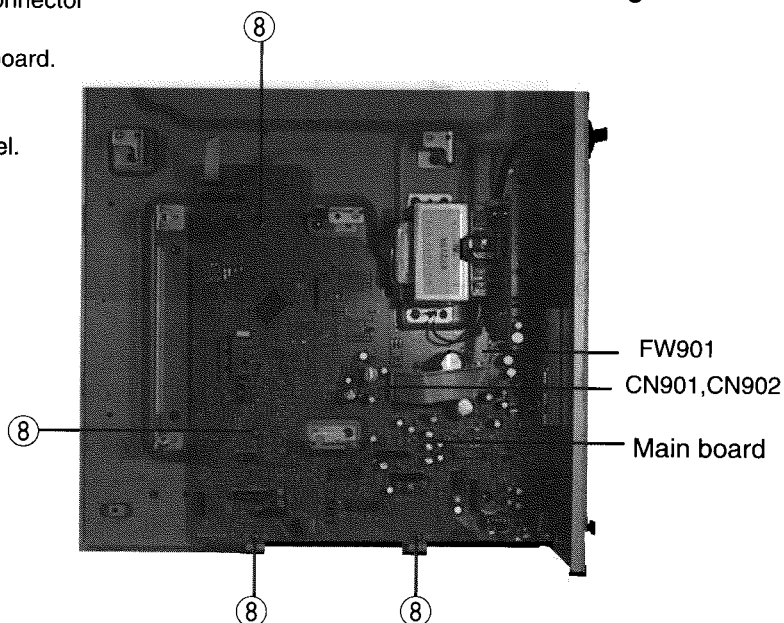

Fig. 10
■ Removing the Main Board (See Fig. 10,11)
2. Remove the four screws ⑧ retaining the main board.
3. Remove the eight screws ⑨ retaining the main board from the rear panel.
4. Remove the three screws ⑩ from the rear panel.